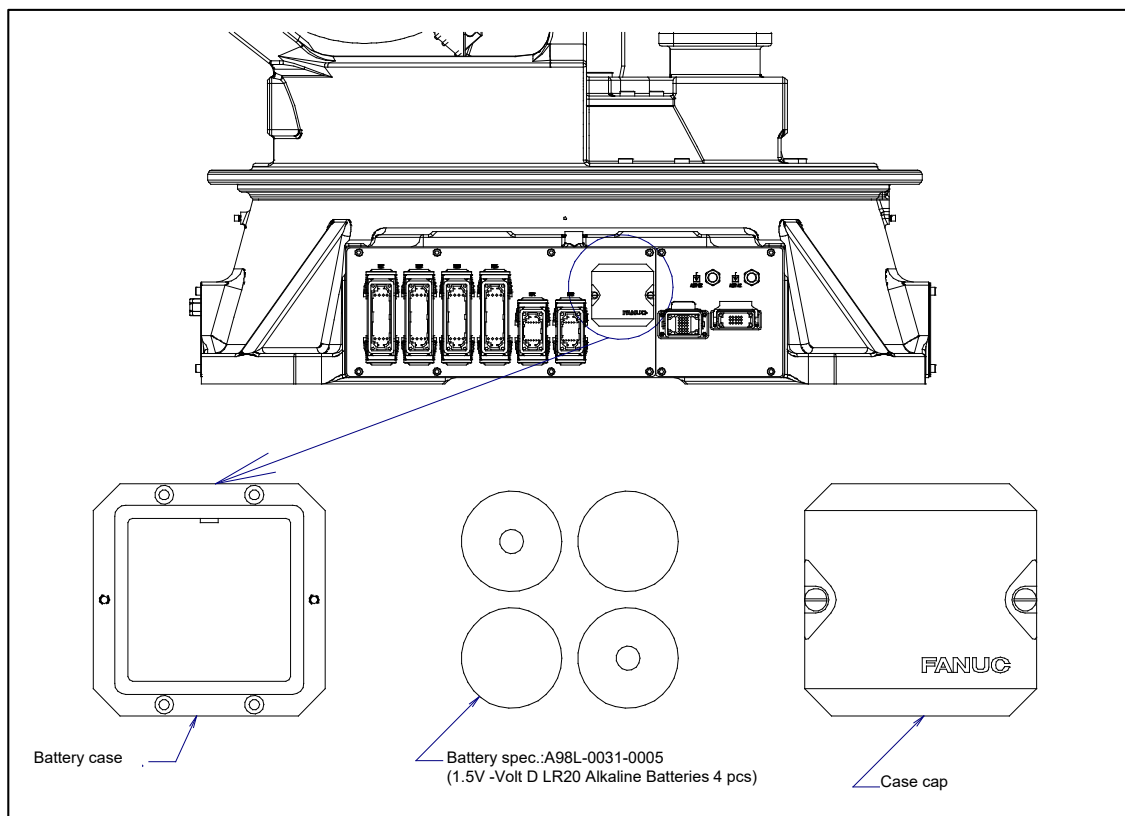

Fig. 7.3.2 (a) Replacing the batteries
- 2 Remove the battery case cap. (Fig. 7.3.2 (a))